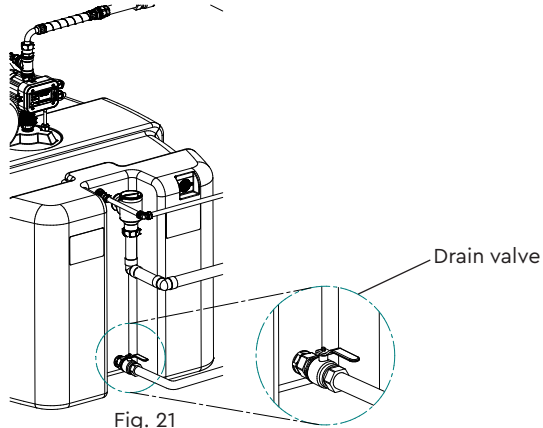

Fig. 21
- b) Isolating the water supply to the tank and draining the water through the dedicated drain port (see Fig. 21).